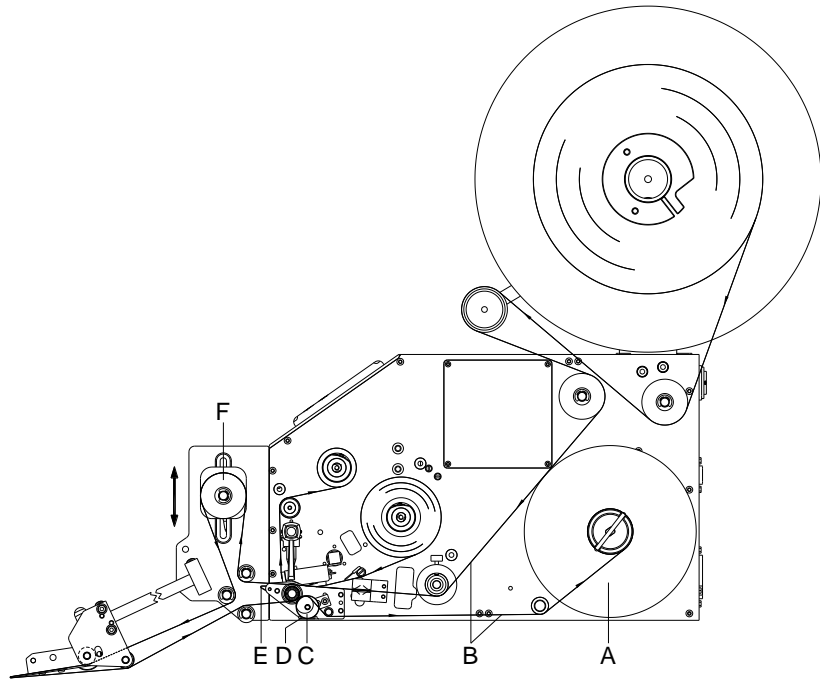

Figure 13
1. Move the dispensing rocker (D, Figure 13, page 26) forwards/upwards by pulling out the knurled knob (C, Figure 13, page 26).
2. Turn the clamping lever (D) against clockwise direction to loosen the mounting plate (A).
3. If required change the angle position of mounting plate (A).
4. Turn the clamping lever (D) in clockwise direction to tighten the position of mounting plate (A).
5. Turn the internal rewriter (A, Figure 13, page 26) of the printing module as long as the backing paper is tightened.
6. Press the dispensing rocker (D, Figure 13, page 26) again upwards to engage.